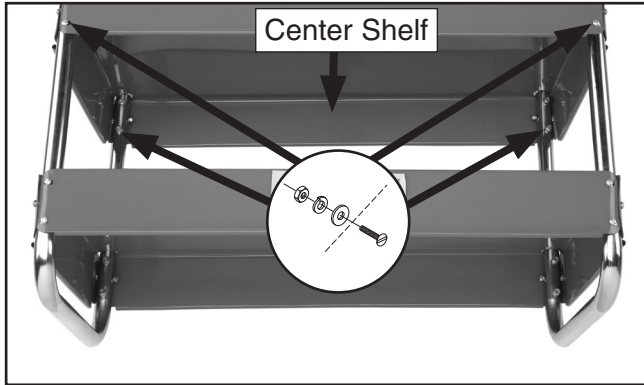

Figure 3. Center shelf installed.
3. Insert the center shelf (see **Figure 3**) through the handles and fasten in a similar manner to **Step 2**.